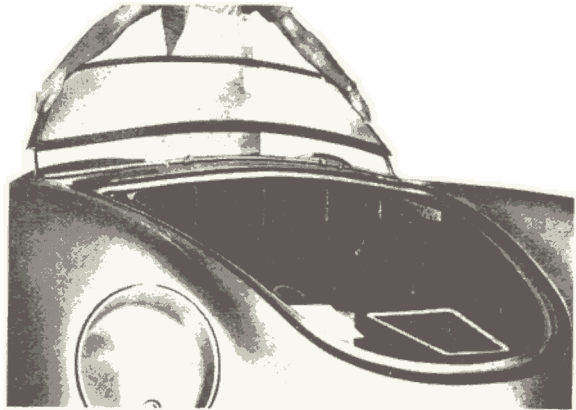

Fig. 46
8. Lift out frame with glass pane (see fig. 46)